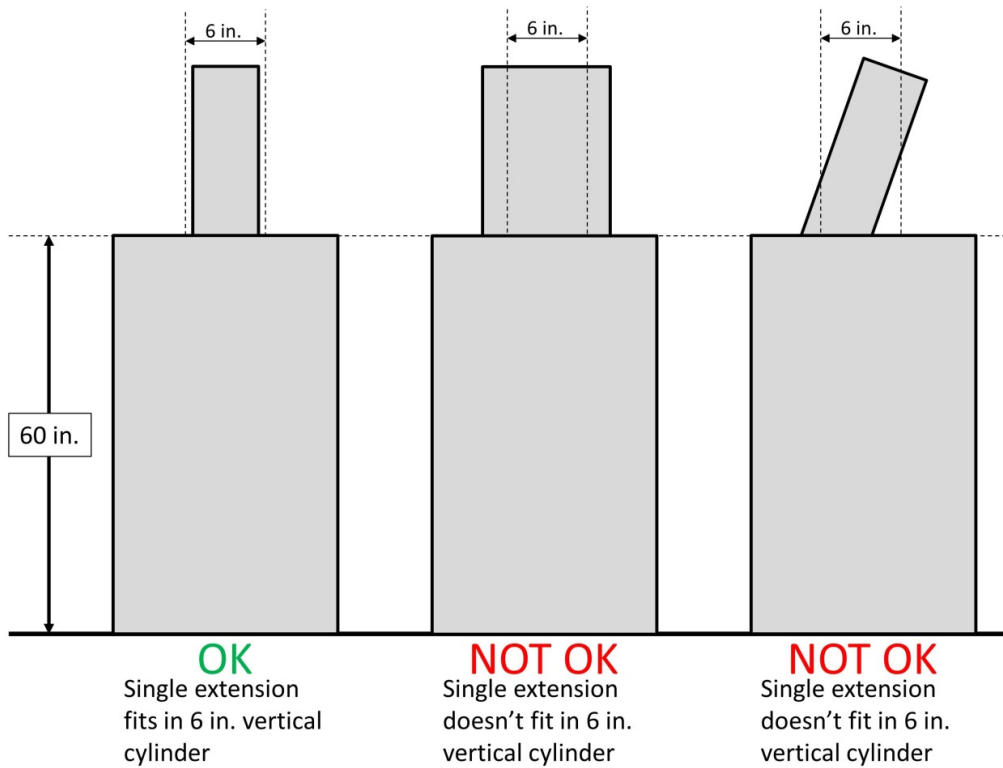
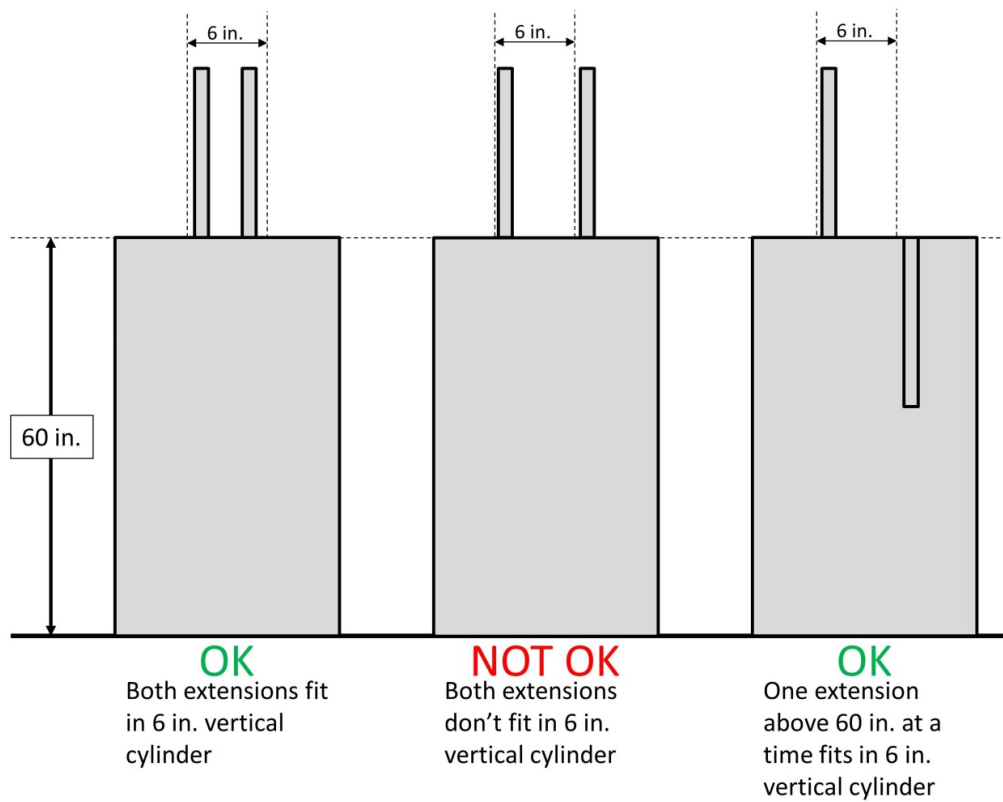

Figure 4-3: Single Vertical Extension Examples
Figure 4-4: Multiple Vertical Extension Examples
- D. Any extension above 60 in. may not exceed a 6 in. diameter vertical cylinder (see Figure 4-3 and Figure 4-4 for examples), per G23.